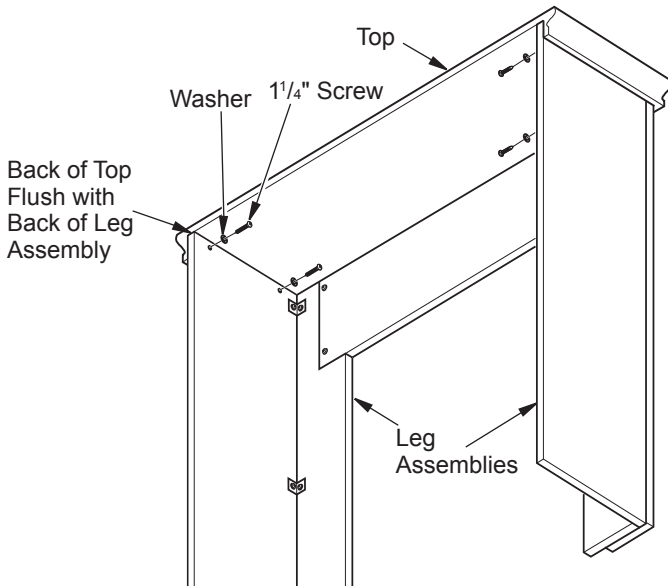

Figure 5 - Attaching Top to Leg and Header Assembly
1. Place mantel top (#7) onto upright leg assembly (see Figure 5). Align back of top with back of sides.
2. Using four 1 1/4" screws with washers, attach top to header/leg assembly (see Figure 5).